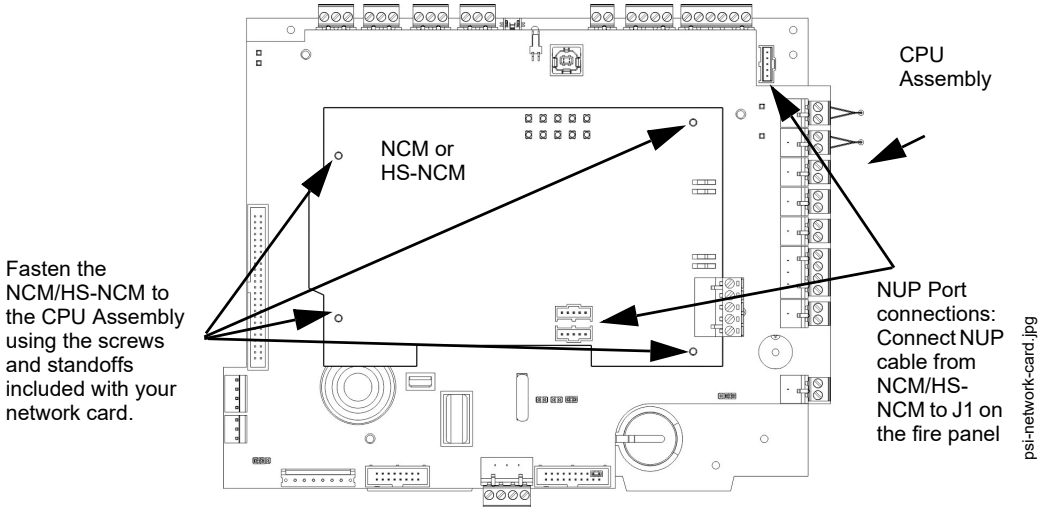

Figure 3.3 Mounting an NCM/HS-NCM to the CPU Assembly
If networking two or more control panels (or network control annunciators), each one requires a Network Communications Module; a wire version and a fibre version are available. The wire and fibre versions on the NCM or HS-NCM can be installed on the CPU and power supply assembly. The preferred position is on top of the CPU assembly, as shown in Figure 3.3.
- 1. Mount the NCM or HS-NCM in the selected position. (See Figure 3.3)